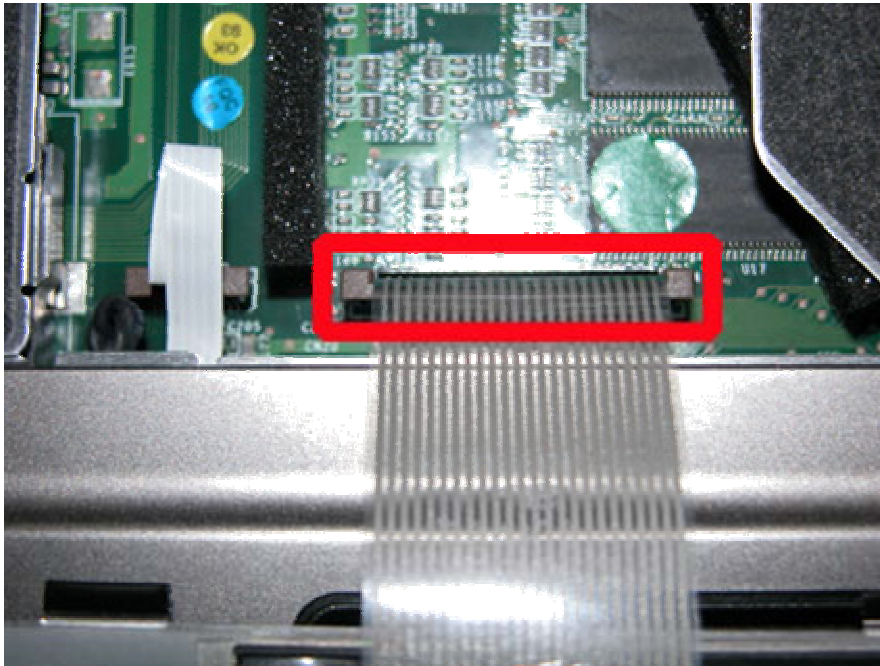

Fig. 8 Disconnecting the keyboard flat cable
3. Lift up the keyboard and disconnect it from the system as shown in Fig. 8